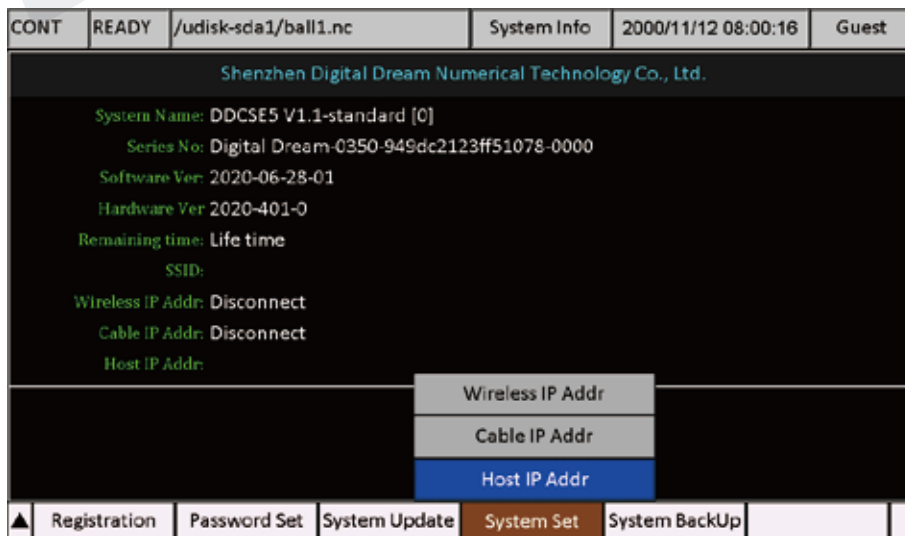

Figure 8-41 Go to Host IP address
- 6) Press Enter and input Computer (Host) IP address “192.168.0.100” as Figure 8-41 shows;